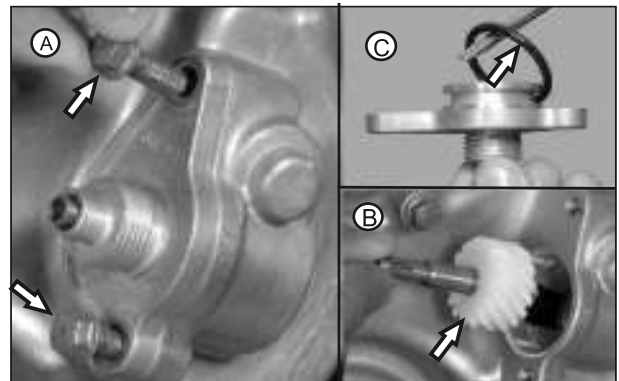

Fig. 3.73
- Loosen & remove 2 nos. M6X16 hexagonal flange bolt from the cover fare meter drive, and separate the cover fare meter. (A) (Fig. 3.73) (wherever applicable)
- Take out the fare meter drive (B). (Fig. 3.73) (wherever applicable)
- Separate the 'O' ring from the cap complete fare meter unit.(C)(Fig. 3.73). (wherever applicable)